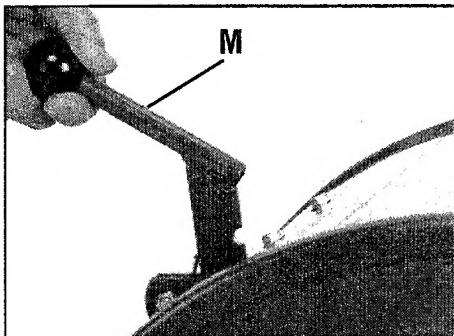

Figure 2-10: Put lever in second notch.
- Pull the Depth Regulator Lever (M, Figure 2-10) straight back and then slide it to the second notch from the top. If the lever does not move freely, lift the tine hood flap and look for a plastic tie securing the lever in place. Cut and remove the tie.
- With the unit on level ground, pull the Depth Regulator Lever (M, Figure 2-10) back and then move it up or down as needed until the engine is level.